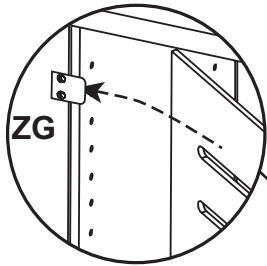

Fig. 2a
2. You may want to remove the Removable Backs (Nb) so that you can fit your media units into the console more easily. To do so, unlock the Turn Button (ZH) as shown in Figures 2 and 2b. Slide the backs away and place them off to the side. To put them back into place, slide the backs behind the Drawer Stops (ZG) and position the Turn Button so that it is locked. See Figures 2a and 2b.